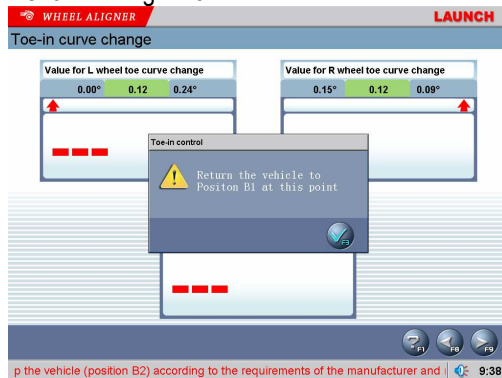

Fig.4.28
5. Put down the vehicle to position B1. Adjust the vehicle front toe-in to the allowed scope according to the standard specifications. The interface is as shown in Fig.4.28: